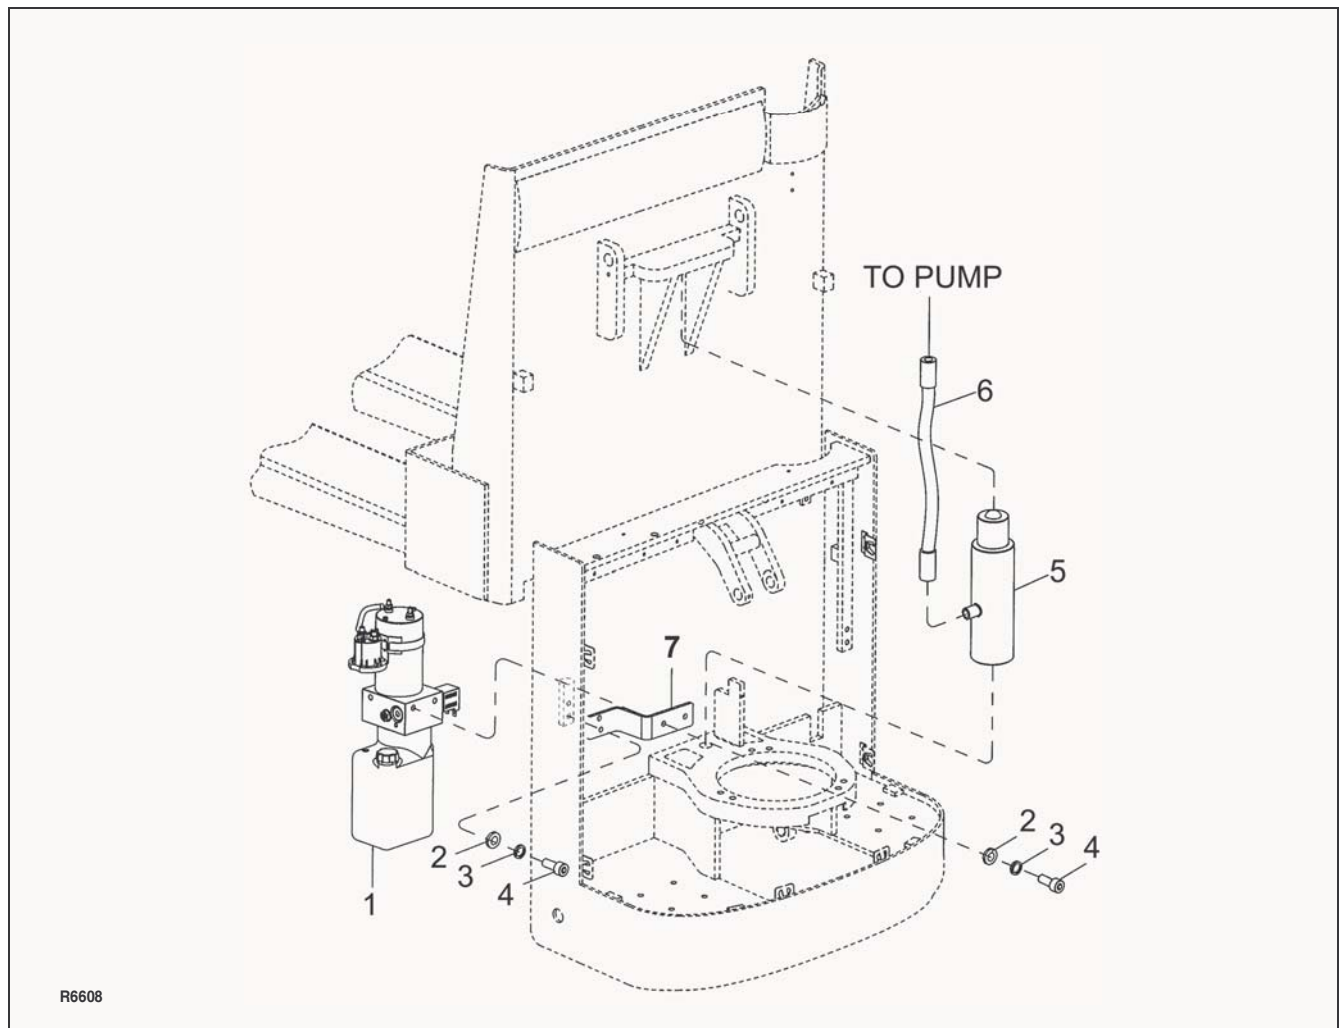

Figure 9-1 Hydraulic System
4. Refer to Figure 9-1 and remove leaking line or fitting and replace it with a new line or fitting.
5. Disconnect hose (6, Figure 9-1) from pump/motor assembly (1).
1. Position bracket (7, Figure 9-1) on pump/motor assembly (1) and secure with two screws (4), two washers (3) and two flat washers (2).
2. While supporting the pump/motor assembly (1), install two screws (4), two washers (3) and two flat washers (2).
3. Reconnect hose (6, Figure 9-1) to pump/motor assembly (1).
5. Disconnect hose (6, Figure 9-1) from cylinder (5).
2. Reconnect the hose (3, Figure 9-1) to cylinder (1) with new O-ring (2).